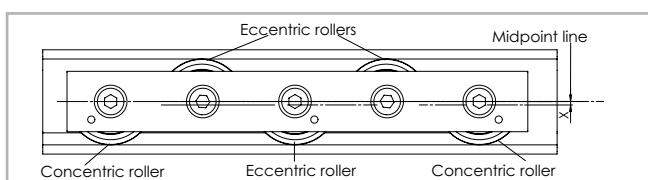

Fig. 71
- Two concentric rollers are recommended for the slider with five or more rollers (fig. 71). The two concentric rollers must be engaging on the lower raceway of the rail. The other rollers must all be eccentric and engaging on the upper or lower raceway of depending on the application. Maintain the recommended offset distance between the midpoint line of the concentric rollers and those of the eccentric rollers.